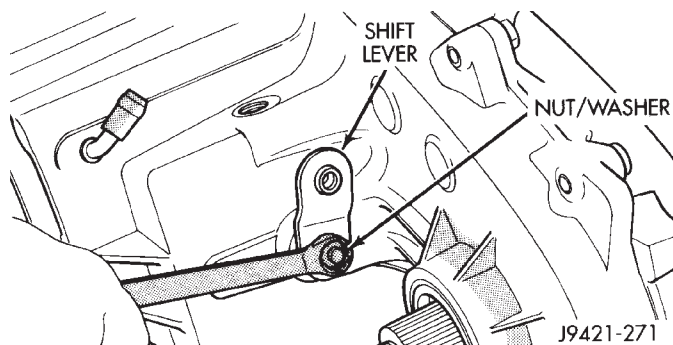

Fig. 86 Shift Lever Installation
(10) Install shift lever on sector shaft (Fig. 86).
(11) Install washer and nut on sector shaft to secure shift lever. Apply 1-2 drops Mopar® Lock N' Seal, or equivalent, to nut threads before installation. Then tighten nut to 27-34 N·m (20-25 ft. lbs.) torque.